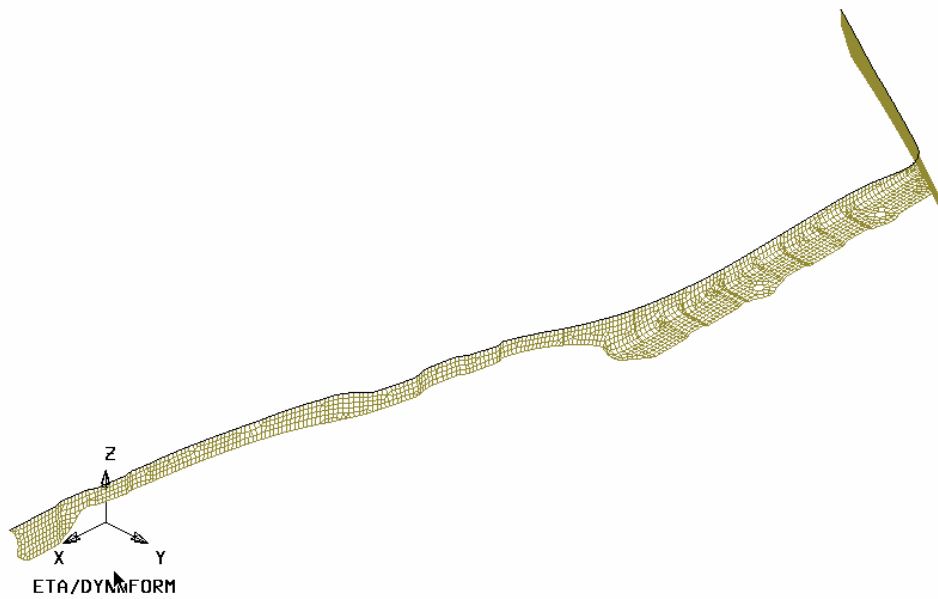

Figure 1.41: Illustration of model boundary line
- 4) Select boundary line, see figure 1.41. Check whether the selected line is correct. If it is not correct, re-break line.